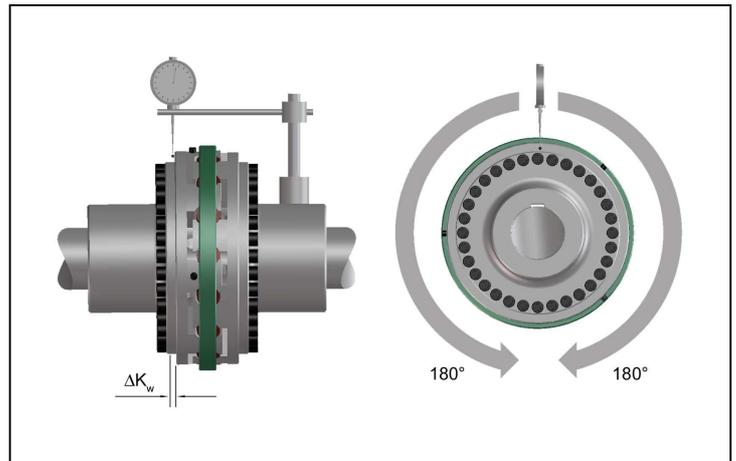

Fig. 8
- Measure one complete rotation (360°) on the face of the outer diameter. Determine the largest deviation  $K_{w1}$  and the smallest deviation  $K_{w2}$  (Fig. 8).